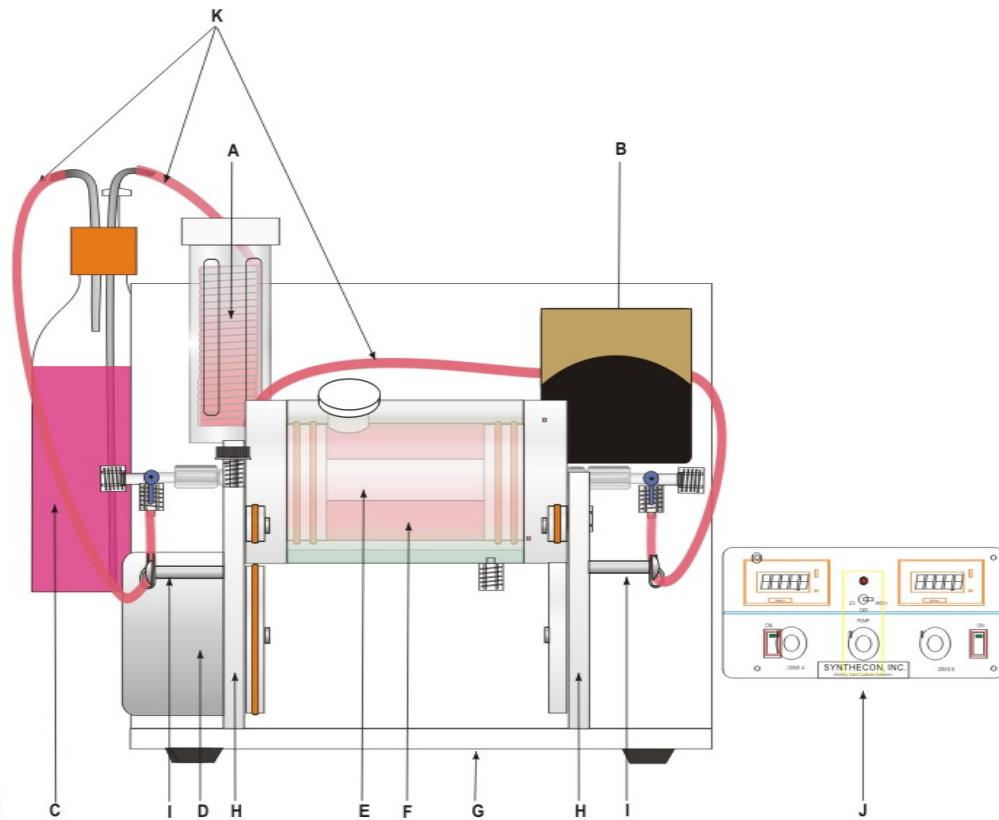

Figure 1
The RCMW™ is composed of the following components shown in Figure 1.
- ☒ **Do not** autoclave the rotator base/upright assembly (see Figure 1). Table 1 lists those components that can be autoclaved.
Please refer to Figure 1 for proper identification of parts to facilitate disassembly. Remove the following items to wash and autoclave or for replacement with pre-sterilized components *before initializing* a sterile cell culture in the RCMW
Refer to Figure 1 for guidance in re-assembly.